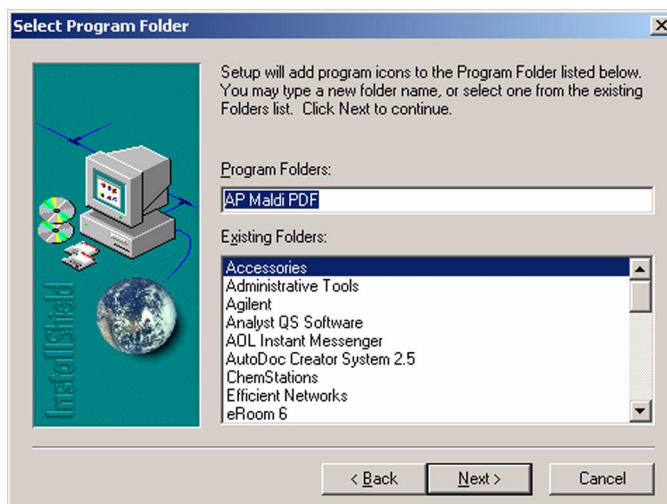

Figure 129 Select program folder for Target software
- 5 Click Next in the next window to create the program file folder. See Figure 129.